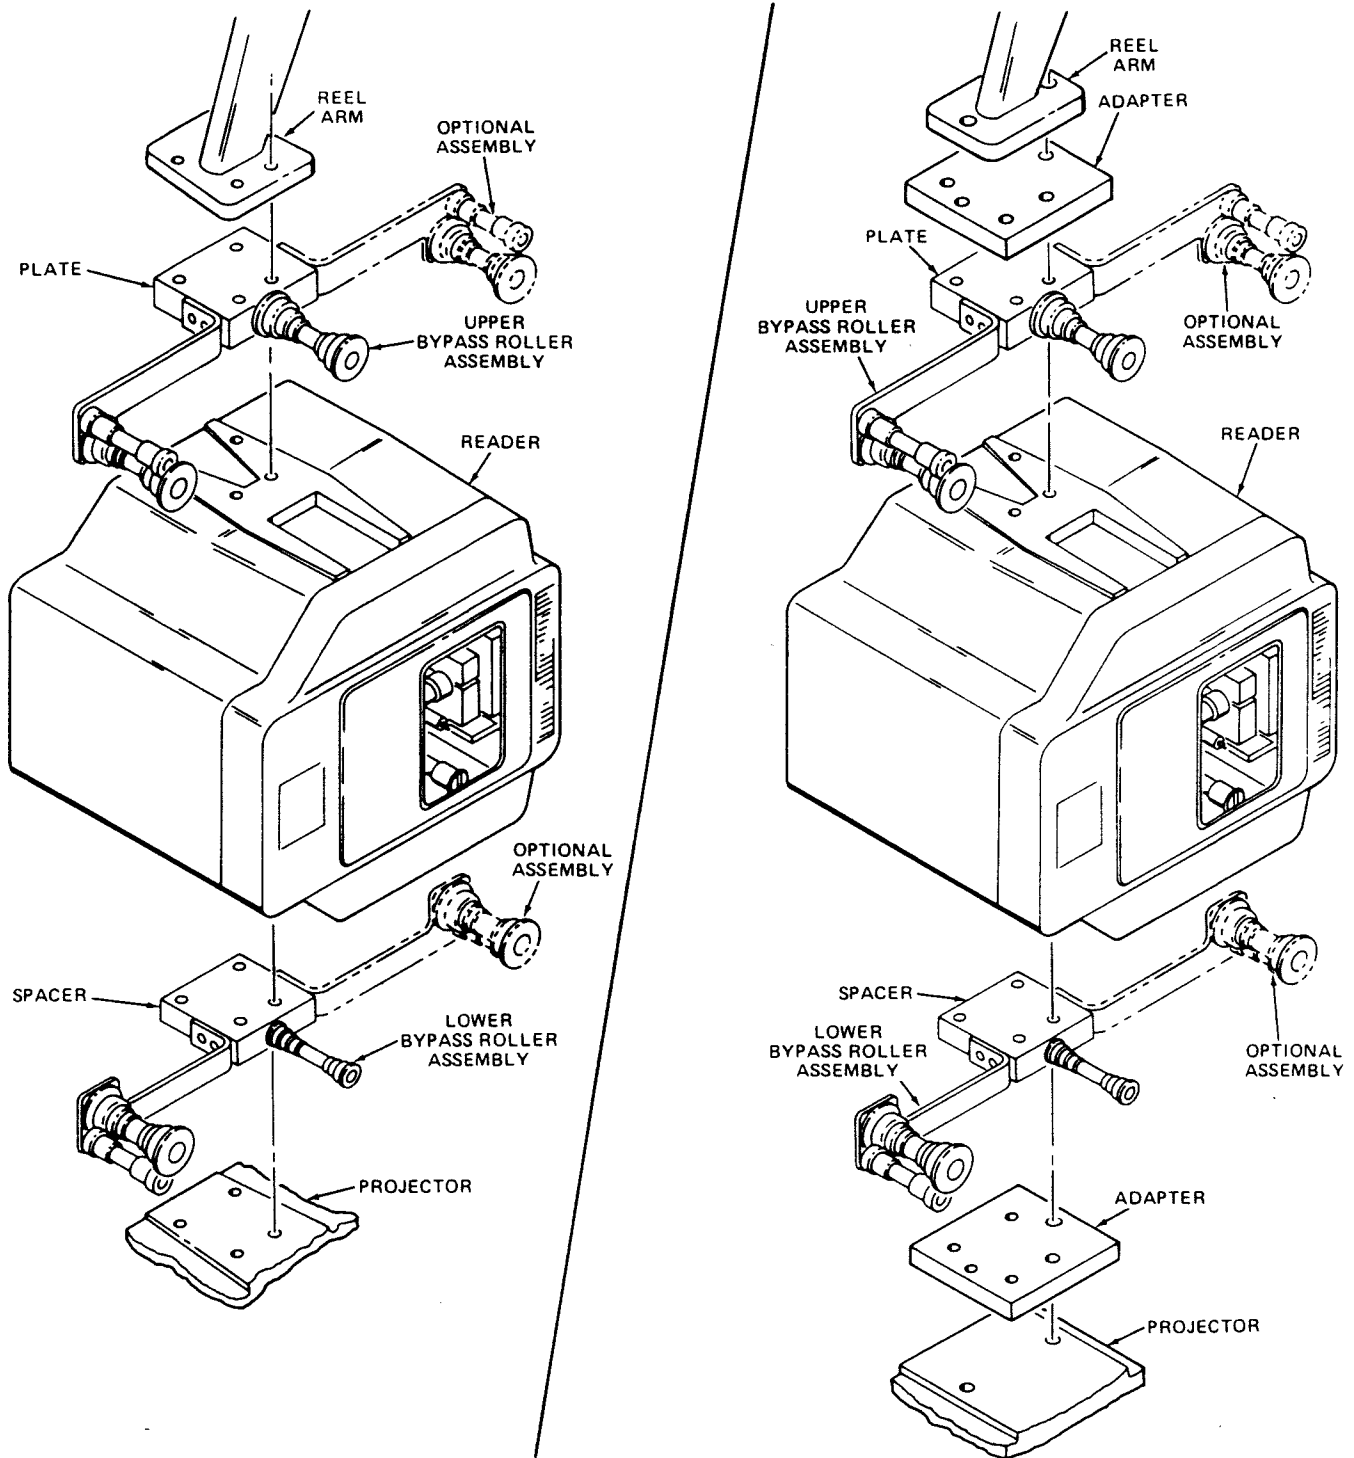

Figure 3-5. Installing Reader on Projector
Installation of Reader on Projector: Install the Reader on the film projector housing as follows (See figure 3-5):
3. **Bypass Installation.** The CDS Reader Bypass Assembly (see figure 3-5) is used to bypass the reader when running a non-CDS encoded film. The two arms with rollers are mounted to the top and bottom blocks on the Reader so as to form a track for the film to thread in and out of the Reader section without passing through the Reader. The arm/roller sets may be mounted either towards the front or back of the Reader, as space may provide. (Additional information is provided in **Appendix 6 - PROJECTOR ADAPTER KITS.**)
Power Supply Cable: The power cable is a standard 3-conductor AC power cable, with plugs at both ends, moulded to the power cable. The female plug at the one end is for connection to the power receptacle on the power inlet module of the Processor (figure 3-5). The male plug at the opposite end is for connection to the external AC line source (wall outlet).